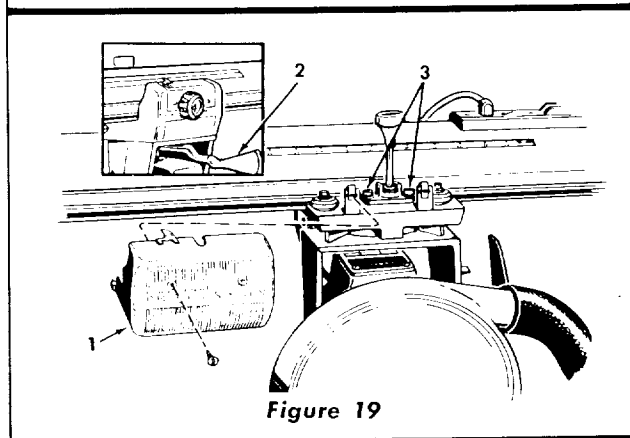

Figure 19
- a. Remove the left-hand carriage cover (1, figure 19).
- b. Loosen the yoke clamp handle (2).
- c. Loosen (slightly) the two hex-head machine screws (3).
- e. Lock the yoke and tighten the two hex-head machine screws (3).
- h. Install carriage cover (1, figure 19).